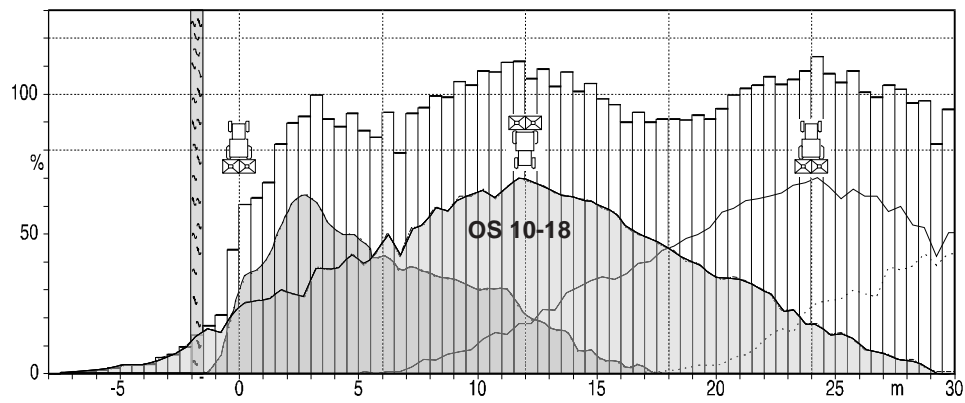

Fig. 4.3
- have created tramlines in spacings of 10 resp. 12 m (Fig. 4.3 and 4.4).
Thus, e. g. boundary spreading (with boundary spread deflector) is recommended for a distance of 1.5 m with 18 m tramline spacing, as no fertiliser is thrown beyond the field's boundary. If, however, with the same spreading vane position (at some kinds of fertiliser, e. g. KAS, it is possible to achieve with the same spreading vane position an optimum lateral distribution at 10-18 m working width) a tramline spacing of 12 m or 10 m is covered, the **OS 10-18** throw considerable fertiliser quantities (approx. 4.5 to 6.5 m) beyond the boundaries when travelling back (see Fig. 4.3).